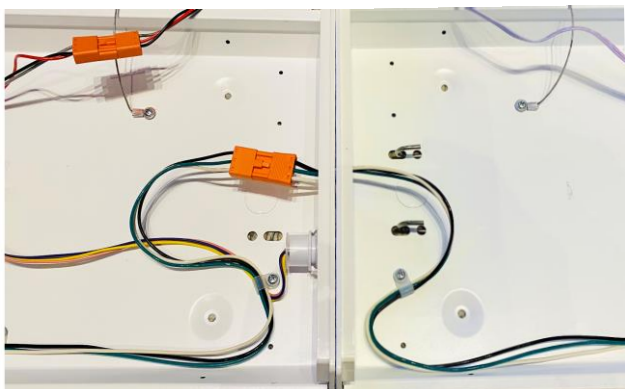

Figure 10
- Feed one of the connectors through the knockouts and push the connectors together until they click (Figure 10).